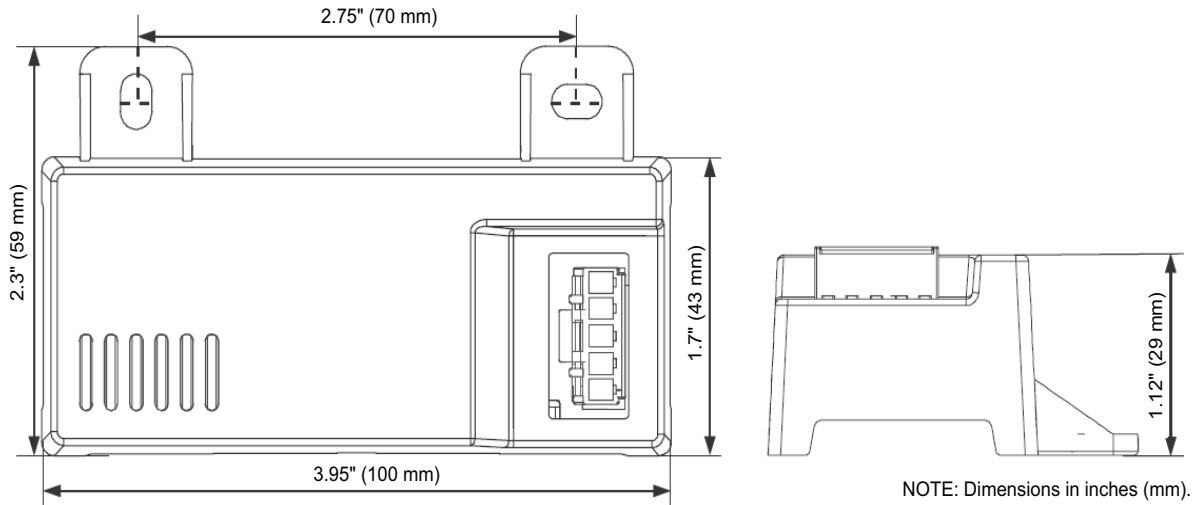
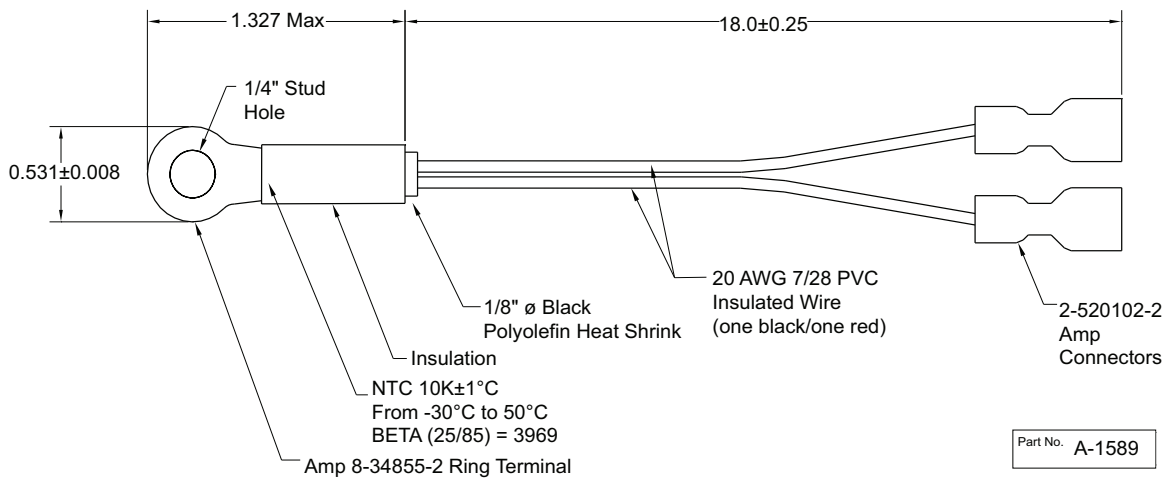
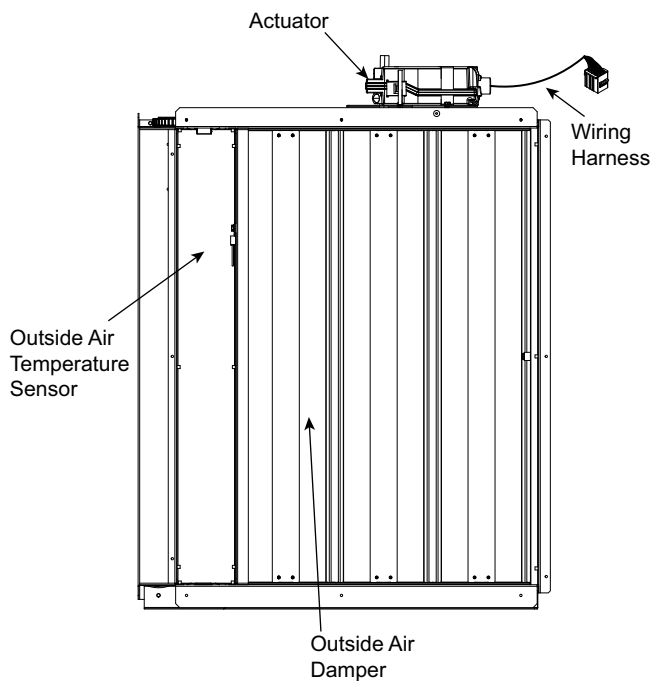

Fig. 94 – HH57LW001 Dimensional, Connection and Switching Information
Fig. 95 – HH79NZ039 Dry Bulb and Mixed Air Sensor Wiring
Fig. 96 – EconomizerONE Component Locations (CRECOMZR108A00 Shown)
When using the HH57LW001 enthalpy sensor (see Fig. 94) for outside air changeover, the existing HH79NZ039 dry bulb sensor (see Fig. 95) must be removed. The enthalpy sensor will be mounted in the same location as the dry bulb sensor (see Fig. 96). When the enthalpy sensor's OA (Outside Air) temperature, enthalpy, and dew point are below their respective setpoints, the outside air can be used for free cooling. When any of these are above the setpoint, free cooling will not be available. Enthalpy setpoints are configurable and create an enthalpy boundary according to the user's input. For additional details, see Fig. 97-98 and Table 37.
The optional enthalpy control sensor (P/N: HH57LW001) communicates with the POL224 economizer controller using the 5-wire harness, 48TC005213. The HH57LW001 sensor can be used as a single outside air enthalpy, a differential return enthalpy, or a differential return temperature sensor. Refer to the base unit control wiring diagrams found earlier in this book to wire the HH57LW001 enthalpy sensor for each option. Use Fig. 94 and Table 39 on page 77 to locate the wiring terminals for each enthalpy control sensor.
Economizers are shipped standard with an HH79NZ039 outside air dry bulb sensor (see Fig. 95). System default setting (high temp limit) is 63°F (17°C) and has a range of 48°F to 80°F (9°C to 27°C). Sensor is factory installed on economizer.
If installing the optional HH57LW001 enthalpy sensor, the HH79NZ039 dry bulb outside air sensor must first be removed. Wire sensor to harness 48TC005213 and the (5) wires from the harness to the EconomizerONE harness in the return air chamber. Harness 48TC005213 has a 5-pin plug that connects directly to the HH57LW001 enthalpy sensor. Refer to the base unit control wiring diagrams earlier in this book for wiring connections. Refer to Fig. 94 and Table 39.